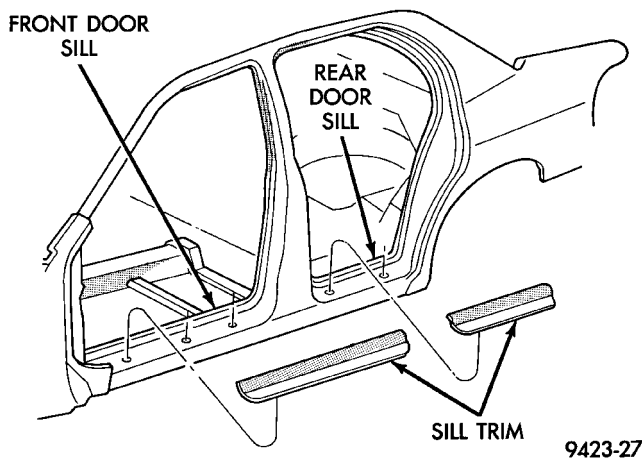

Fig. 54 Door Sill Trim
- (2) Disengage clips holding sill trim to door sill and door opening flange.
- (3) Separate door sill trim from vehicle (Fig. 54).